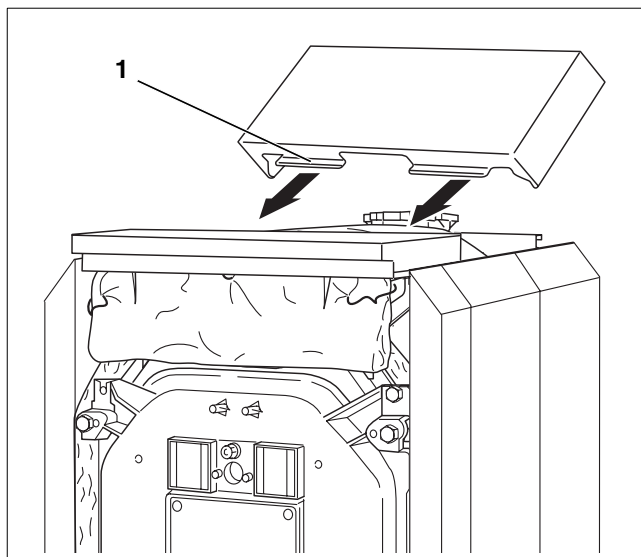

Fig. 52 Assembly – Fitting centre cover
- Slide the folded lips (Fig. 52, **ref. 1**) of the centre cover under the front cover and lower it into the grooves on the side panels.